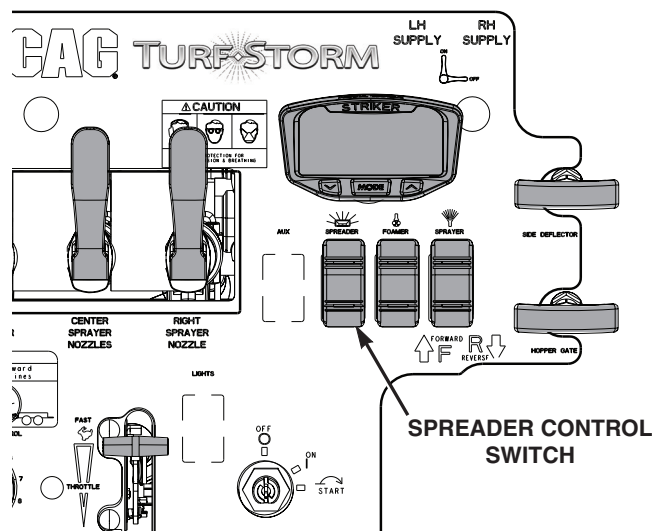

Figure 4-15. Spreader Engage Switch
1. To engage the spreader, push the spreader switch. Refer to section 4.11A, Figure 4-15.
2. Adjust the spreader speed to the desired speed using the spreader speed knob. Refer to section 4.11A, Figure 4-15.
7. Close the hopper gate with the spreader at operating speed. Then disengage the spreader by disengaging the spreader switch. See Figure 4-15.
1. Engage the spreader switch to turn the spreader motor on. See Figure 4-15.